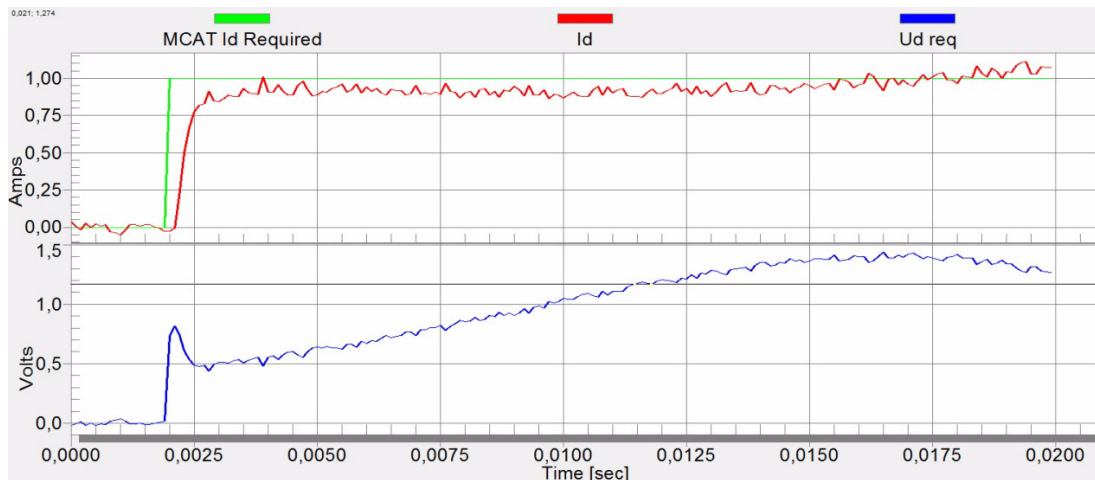

Figure 8. Optimal Step Response of Id Current Controller
- Loop bandwidth (300 Hz) is optimal and the response time of the I_d current is sufficient, see Figure 8.
In practice, the values of the motor and load inertias and frictions are very often unknown and it is quite difficult to obtain them. Therefore, a manual tuning of the P and the I portions of the speed controllers is available to obtain the required speed response, see the example response in Figure 8.